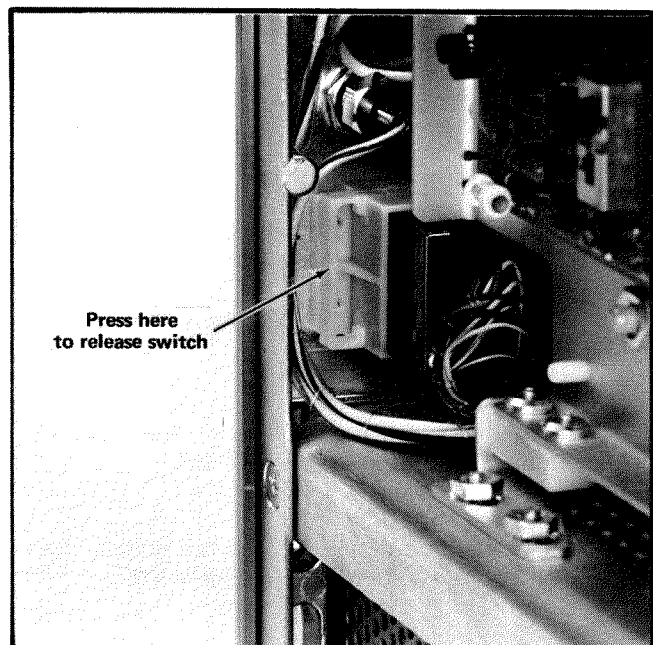

Fig. 4-5. Detailed view of trigger source switch holder (B TRIGGER SOURCE switch shown).
2. Press the center of the release bar of the switch holder and press on the front-panel pushbuttons to remove the switch from the holder. Fig. 4-5 shows a detailed view of the switch holder.